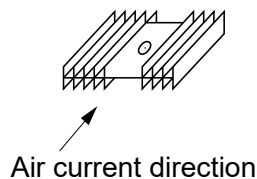

Figure 11 Thermal Resistance with Forced Air cooling
- (ii) Heat sink must have a suitable shape and dimensions for efficient radiation. Also, forcibly cool down the semiconductor devices etc., if necessary. (figure 10 and figure 11).